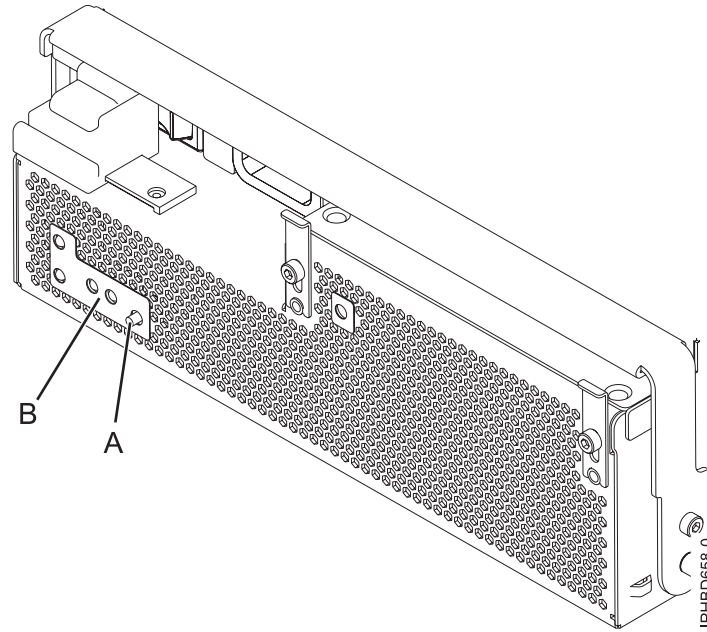
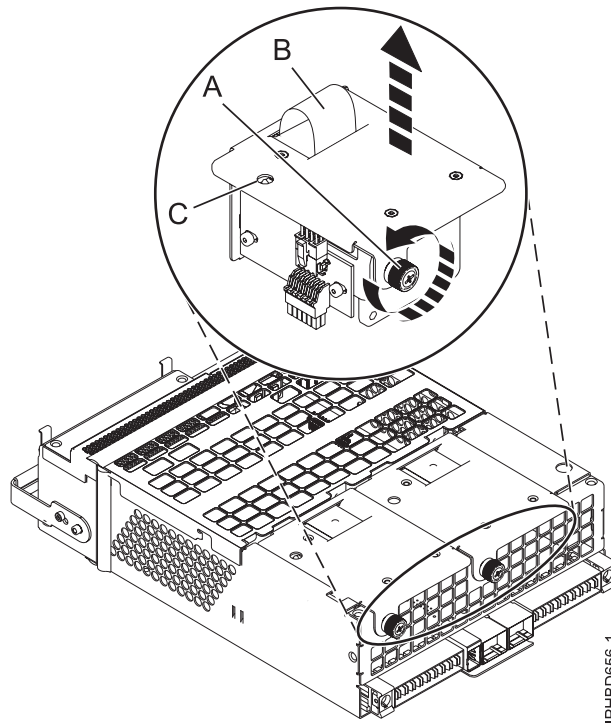

Figure 10. Fan fault LED and fan identify button
Figure 11. Removing a power supply fan
Note: If a fan fails, the amber fan fault LED on the front of the Offline Converter Assembly (OCA) (B), shown in Figure 10 on page 12, is on solid.
- a. Identify the failing fan by pressing the fan identify button (A) shown in Figure 10. An amber left or right fan-fault LED (C) on solid, as shown in Figure 11, indicates the faulty fan.
- b. Loosen the thumbscrew (A) that holds the fan in the power-supply assembly, as shown in Figure 11.
- c. Use the recessed fan handle **(B)** to pull the fan out of the power-supply assembly, as shown in Figure 11 on page 12.